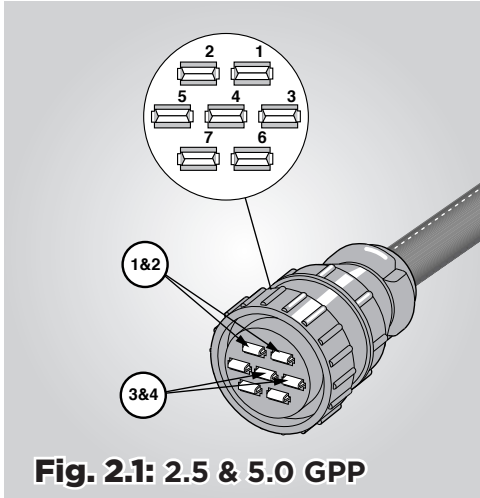
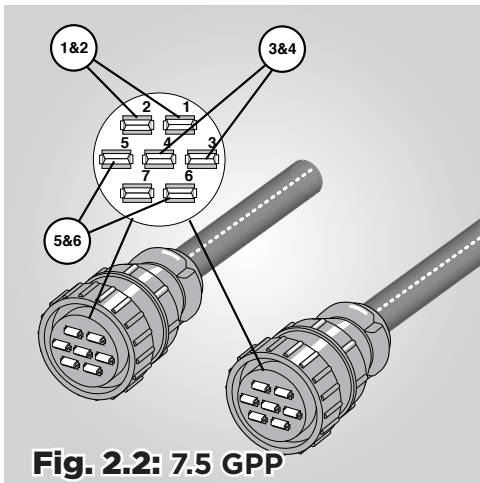

Fig. 2.1: 2.5 & 5.0 GPP
Fig. 2.2: 7.5 GPP
2.5 and 5.0 GPP:	1 & 2 / 3 & 4 (See Fig. 2.1)
7.5 GPP:	1 & 2 / 3 & 4 / 5 & 6 (See Fig. 2.2)
- 2.5 and 5.0 GPP: Check each of the High Voltage terminal pairs on the output connector for aprx. 360 Volts RMS AC. Pairs: 1 & 2 and 3 & 4 (See Fig. 2.1). 7.5 GPP: Check each of the Voltage terminal pairs on both of the output connectors for approximately 115 Volts RMS AC. Pairs: 1 & 2, 3 & 4 and 5 & 6 (See Fig. 2.2).